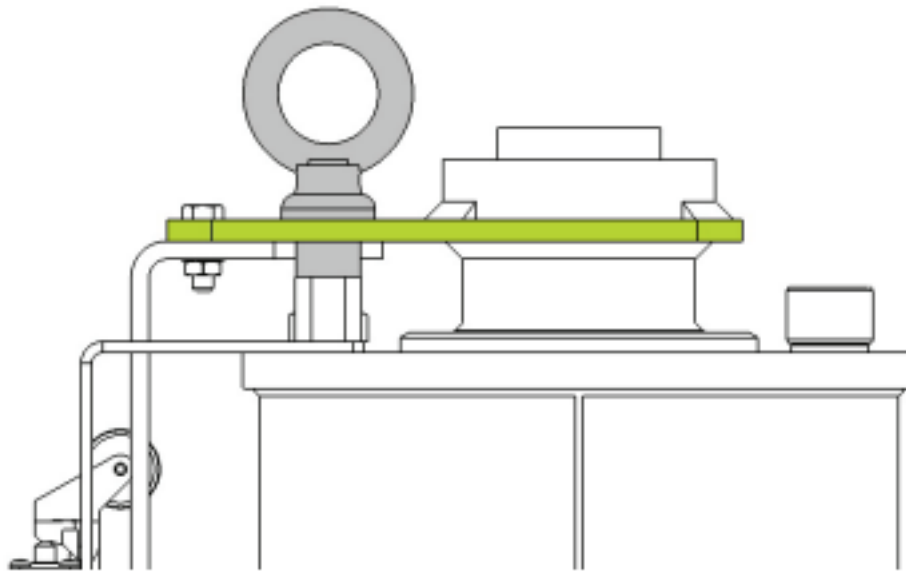

Figure 4
- To release the plunger, undo the eye bolt. See Figure 4.
- Discard transportation eye bolt and spacer shown in Figure 4.
- After periods of being held in the compressed state during transportation and storage, the plunger may require assistance to initially extend. This should be done using a rubber dead blow mallet to tap the underside of the buffer head (GREEN in Figure 4) at 90 degree intervals until the plunger extends.